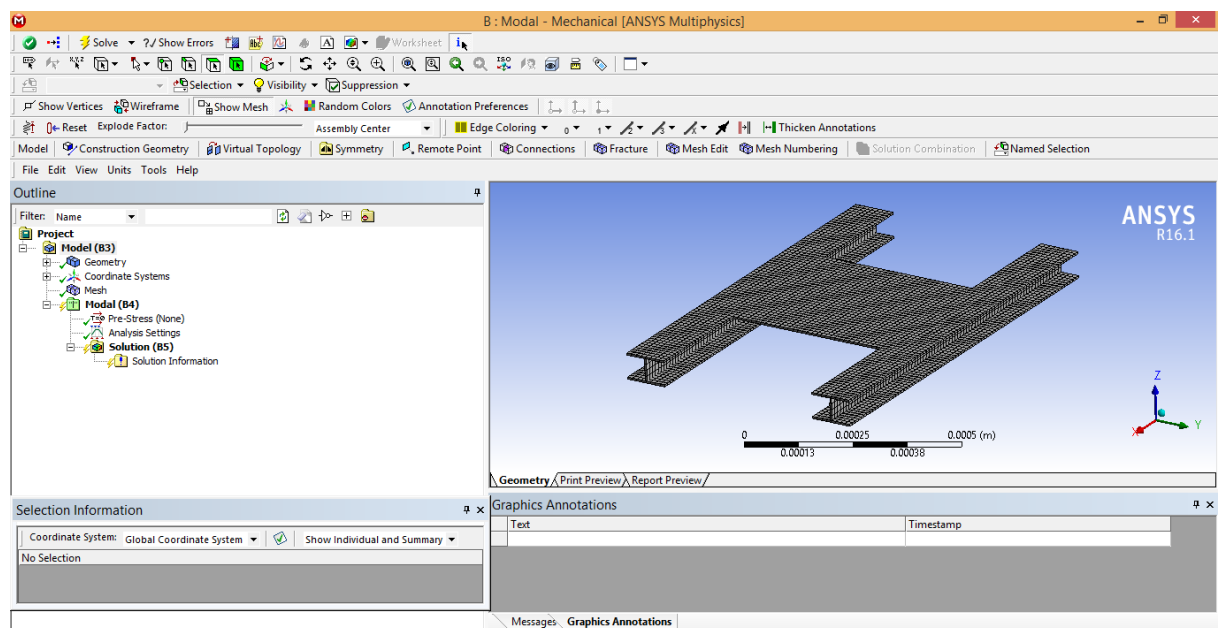

Figure 2.7. **Mechanical** module window with the model of platform
16. Open the **Modal** project model by double-clicking on the **Model** field. The **Mechanical** module will be run, see Figure 2.7.